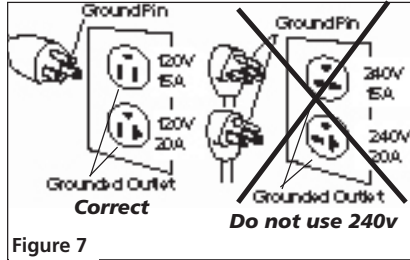

Figure 7
1. This product is for use on a nominal 120 v circuit. It must be grounded. In the event of an electric short circuit, grounding reduces the risk of electrical shock by providing an escape wire for the electric current. Unit is equipped with a cord that has a grounding prong. It will fit one of the common outlet types shown in Figure 7. If plug will not fit in the desired outlet, have the plug or the outlet replaced by a qualified electrician.
- If the plug on the electrical cord of the unit is unfamiliar to you or will not fit your particular receptacle, Figure 7 will help you understand why by illustrating the different plugs and the voltages they are to be used with.